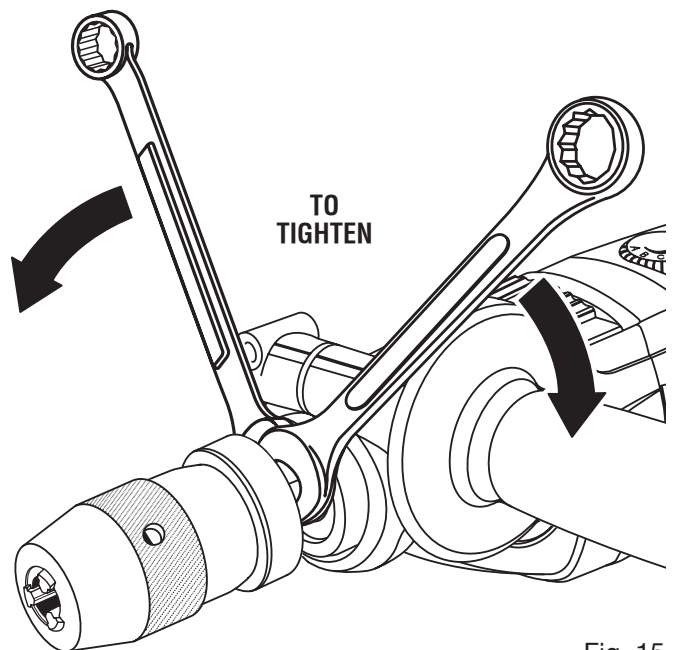

Fig. 15
See Figure 15.
- Using two open-end wrenches, tighten the chuck. See Figure 15.